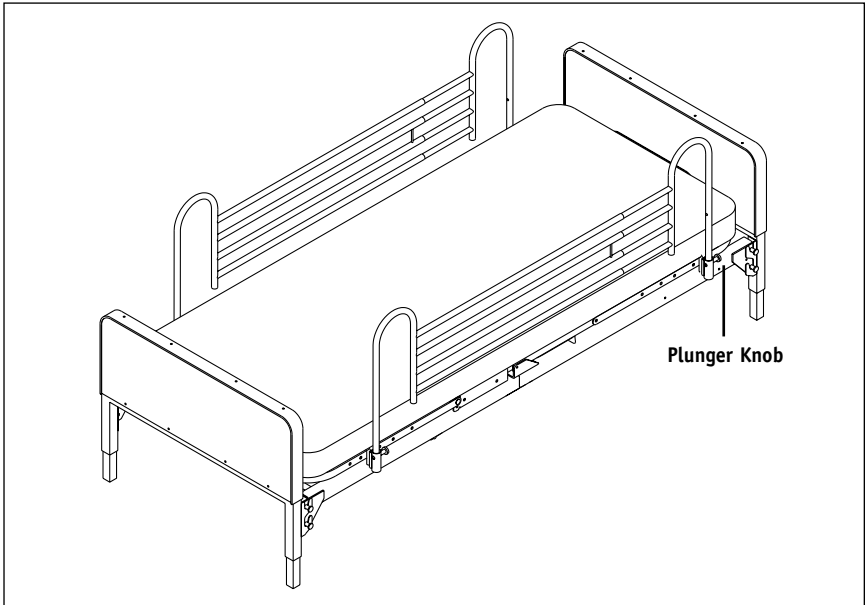

Figure 4
1. Hold the rail securely, then pull the plunger knob (Figure 4).